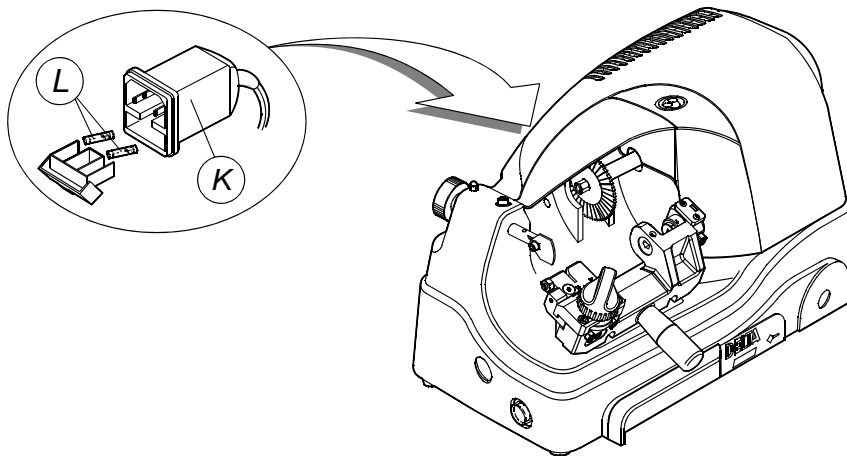

Fig. 21
- 3) remove the fuse box placed below the power inlet (K) (fig.21);
- 4) replace the fuses (L);